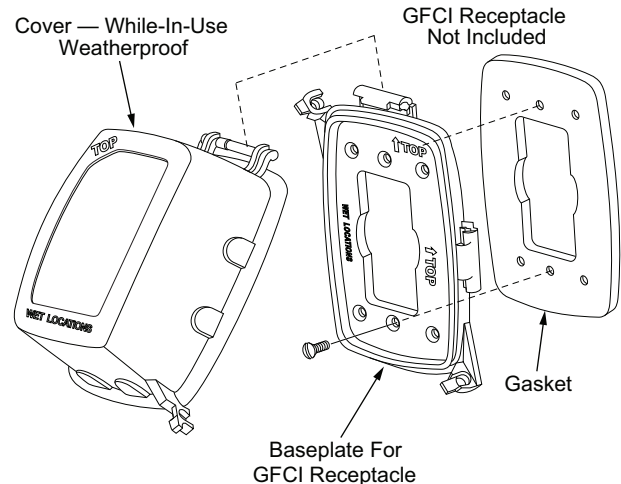

Fig. 37 — Weatherproof Cover Installation
4. Mount the weatherproof cover to the backing plate as shown in Fig. 37.